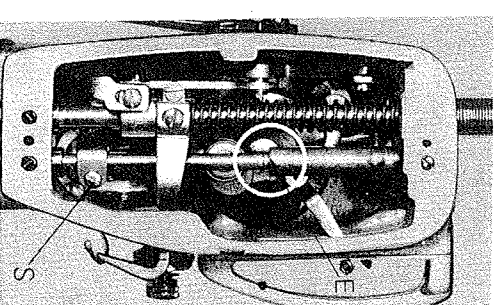

Fig. 12
2. Loosen the screw (S) (Fig. 12) and adjust the needle bar so that the upper marking line of the needle bar is set in line with the lower end (E) of the needle bar bushing.
3. Tighten the screw (S) and replace the face plate.